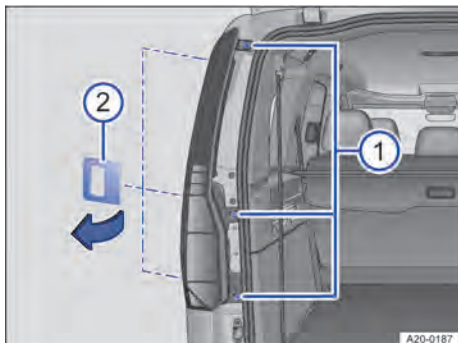

Fig. 175 At the rear left side of the vehicle: removing the tail lamp cluster.
- ① Securing bolts.
- ② Auxiliary tool.
1. Undo securing screws with a screwdriver → Fig. 175 ①. Insert a suitable interchangeable blade if necessary.
2. Pry the tail lamp cluster out of the holder from top to bottom using the auxiliary tool → Fig. 175 ②.
5. Insert the tail lamp cluster into the opening in the body and carefully press into the holder → Fig. 175.
6. Tighten the securing screws → Fig. 175 ①.